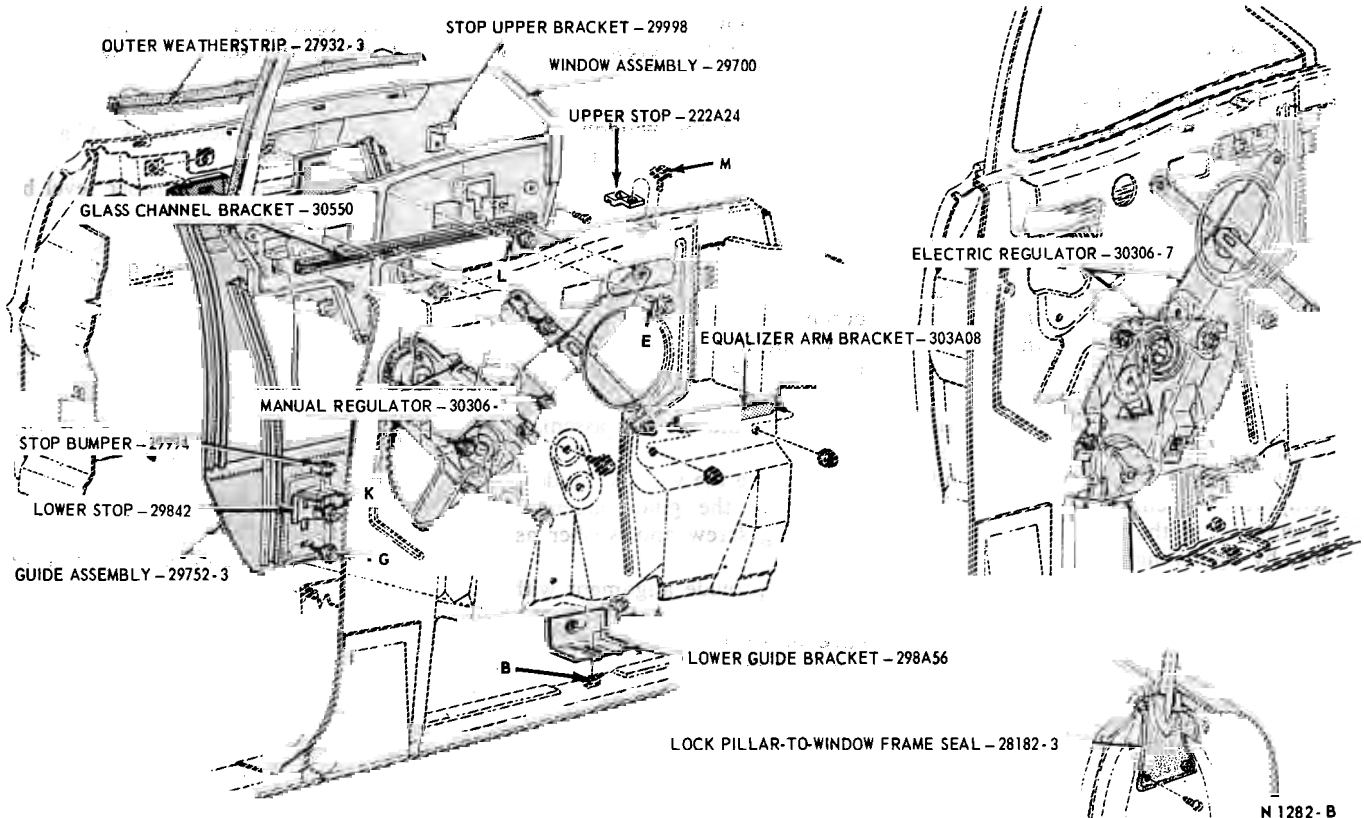

FIG. 9—Quarter Window Mechanism—Comet, Fairlane—Model 76
2. Loosen the screw and washer assemblies A, B, E, G, K, L and M (Fig. 9).
4. Position the upper stop assemblies (Fig. 9) and the quarter upper stop brackets and tighten the retaining screw and washer assemblies L and M.
against the window channel and tighten the lower stop assembly retaining screw K (Fig. 9).